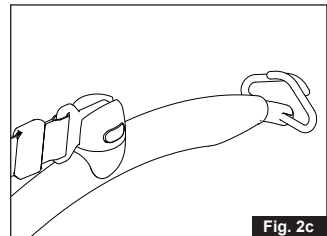

Fig. 2c
2. Release the yellow button (fig. 2c)